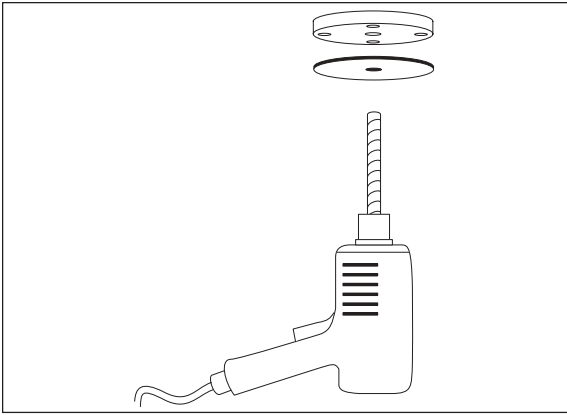

Figure 4
b. Cut out circle "C" on template and place onto the lower spring seat with a dab of grease to hold in position. Center punch and drill a 1/2" hole (Figure 4).